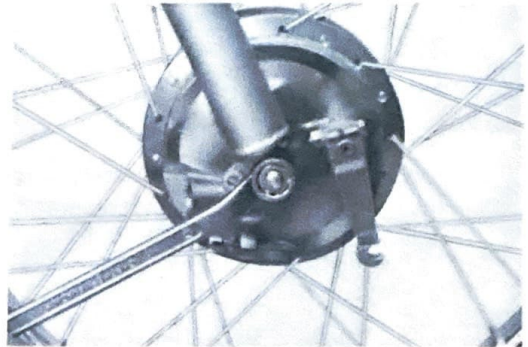

Fig. 5-1-3
- 2) Remove the front wheel shaft nut. (Fig. 5-1-3)